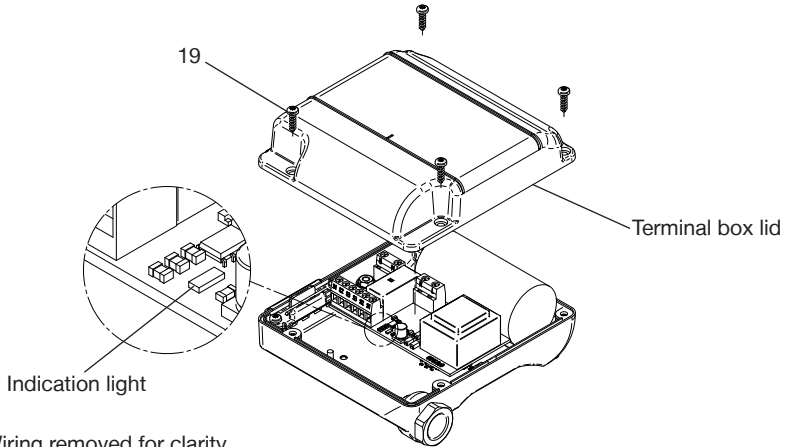

Fig. 17 Wiring removed for clarity
- Remove the four screws (item 19) retaining the terminal box lid (Fig. 17).